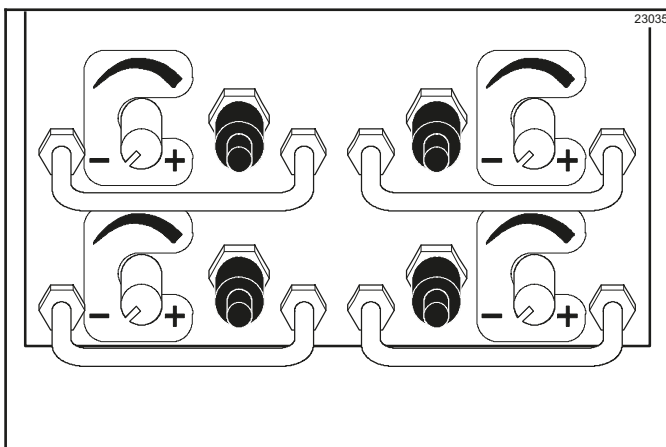

Figure 6-64
**Note:** There is a black prime button mounted at the top of the syrup cabinet (one per flavor), which speeds up the priming process. After the WASH key has been pressed, press and hold the corresponding black prime button in the syrup cabinet until the syrup flow out of the line is consistent and all air bubbles have been removed from the line. (See Figure 6-64.)